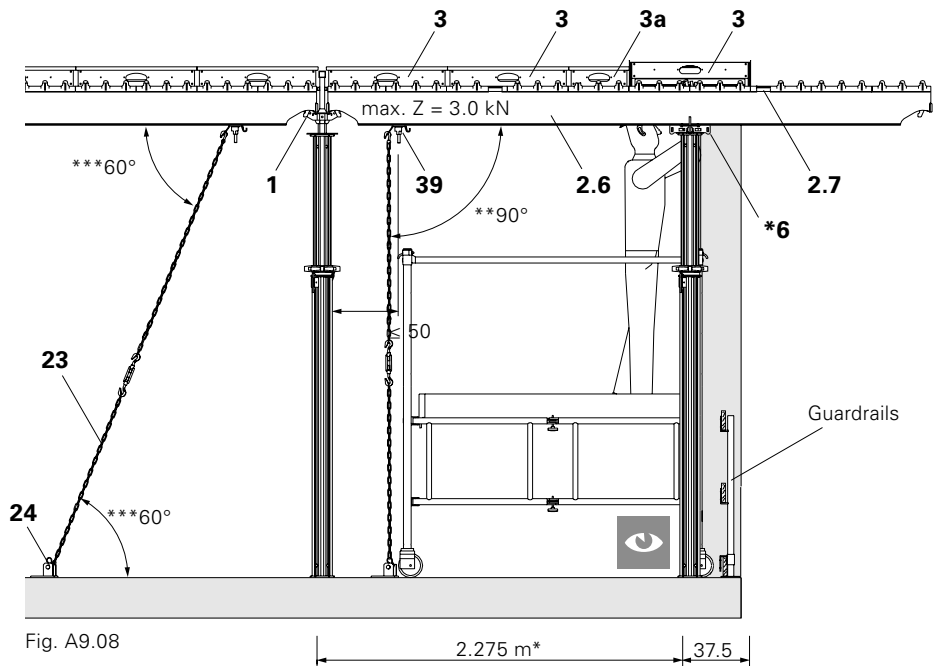

Fig. A9.08
1. Place prop with Drophead SFK (1) at slab edge and secure with tripod.
2. Connect Main Beam SLT 375 (2.6) and support by means of a second prop with Prophead SSK (6) after 2.275 m at the edge of the building. (Formed exclusively with prophead; position front prop at a distance of 2.25 m).
3. Mount Tension Sleeve SAO (39) in the main beam groove. Distance  $\leq 50$  cm from the non-cantilevered end.
4. Attach tension chain (23) with turnbuckle to the eye at the top, and anchor to the ground by means of a base plate (24). (Fig. A9.08)
5. Bay by bay immediately install 3 Panels 150 x 75 (3) and 1 Filler Panel 150 x 37.5 (3a) from below as far as the platform support (2.7) of the Main Beam SLT 375. For example, with the PERI Stripping Cart ASW 465.
- Are the props in line with the props of the corner table? (Fig. A9.08)